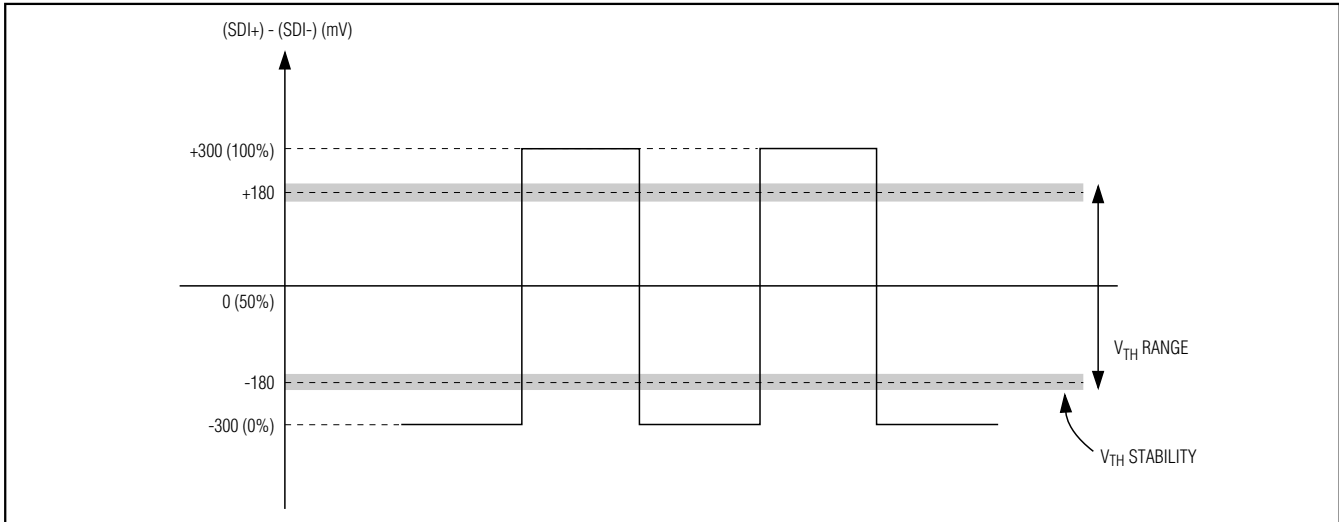

Figure 3. Definition of Input Threshold
**Note 4:** Jitter specifications are guaranteed when input threshold is set to  $\leq 30\%$  of the differential input swing. Measured with edge speed  $\leq 150ps$  (Figure 3). Guaranteed by design and characterization.
This analog input controls the decision threshold of the input stage. In applications where the noise density is not balanced between logical zeros and ones (i.e., optical amplification using EDFA amplifiers), it is possible to achieve lower bit-error ratios (BER) by adjusting the input threshold. Threshold adjust may be disabled by connecting THADJ to VCC. The threshold level is set relative to the center of the differential input voltage swing at the input. Refer to Figures 3 and 7 for setting the voltage at THADJ.